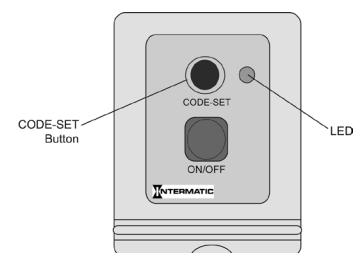

Figure 3 RC613 Receiver
2. On the receiver (RC613), press and hold the blue CODE SET button for 3 seconds. See Figure 3.